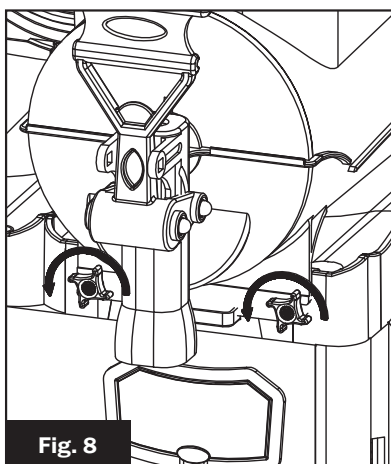

Fig. 8
1. Remove the (2) front fixing knobs by unscrewing them counterclockwise. (Fig. 8)